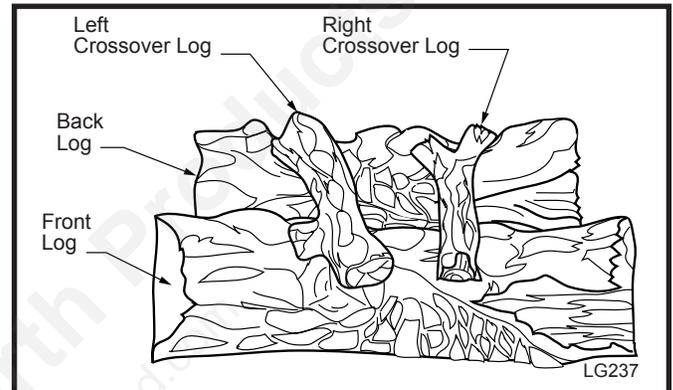

Fig. 12 GBR36 log placement.
5. Place the top logs onto the locator notches. Ensure that the logs are secure. (Fig. 12)